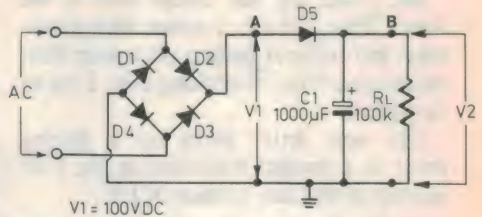

Fig.3: Knowing V1 is 100V DC, can you work out V2?
Ron's question is, given that the voltage between point A and ground of Fig.3 is 100V DC (as measured with a DC voltmeter), determine the voltage
3. It appears that D2 and D3 are transposed on the board relative to Fig.3 page 86, although once again this will only provide problems if signal tracing is attempted. The correct orientation of these two diodes is as follows: Diode D2 on the parts overlay has its cathode (black band) to the left and diode D3 has its cathode up.
5. Capacitor C17 shown in Fig.3 page 86 should have its polarity reversed.
6. Capacitor C18 shown in Fig.3 page 86 does not exist on the board.